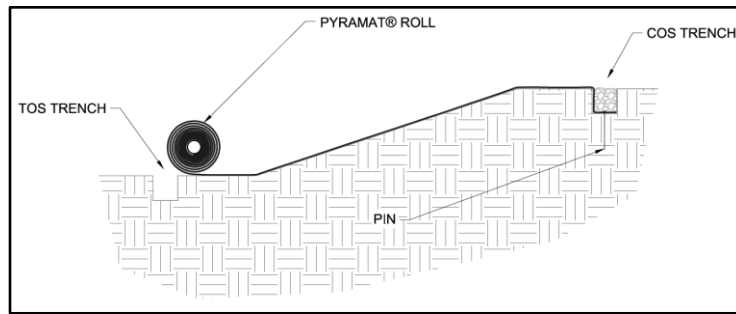

Figure 6: Placement of PYRAMAT across Slope
- Unroll the PYRAMAT roll on the slope surface in the area to be armored (Figure 6). Ensure that PYRAMAT has intimate contact with the ground and all irregular surfaces beneath PYRAMAT are removed.